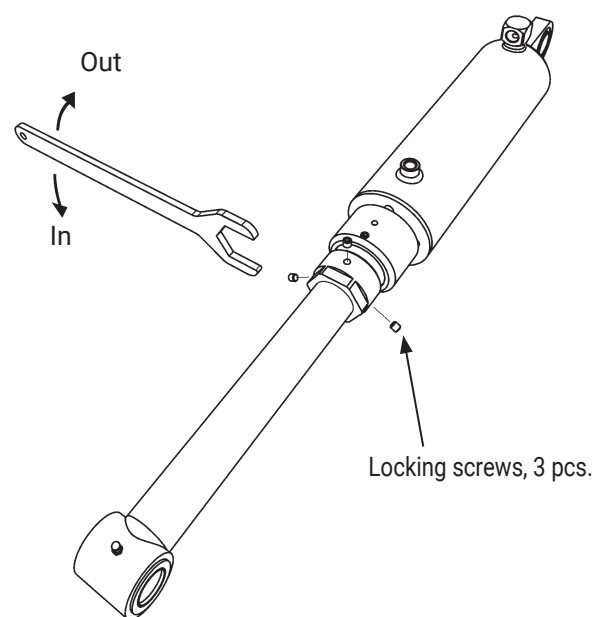

Figure 28. Adjusting the tilt angle
3. Undo the three locking screws on the cylinder mounted on the platform, Figure 28.